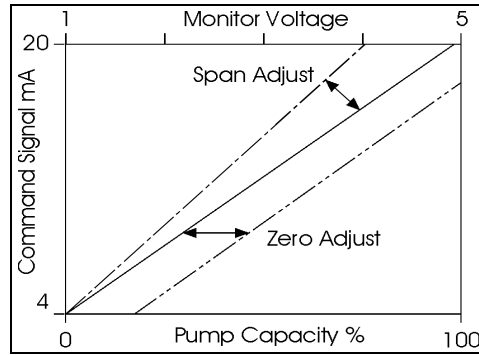
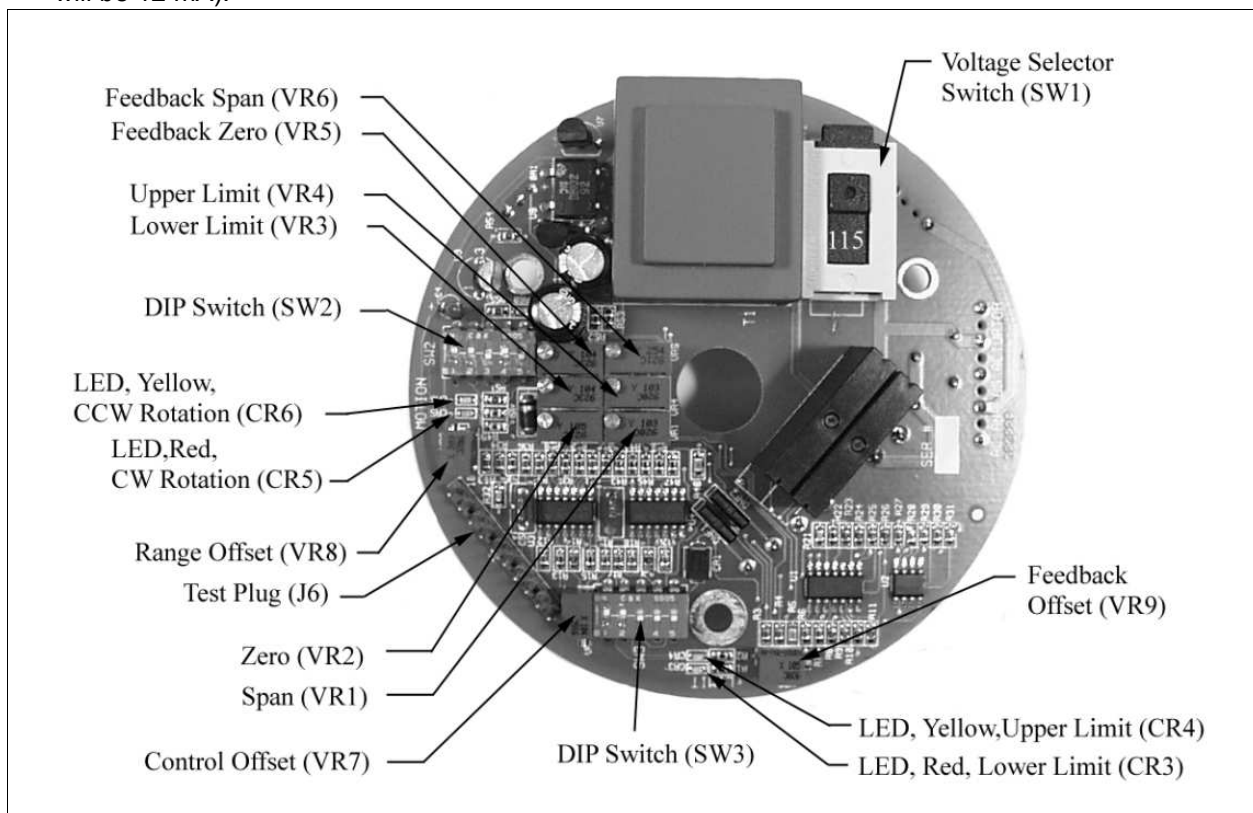

Figure 9. Effect of Zero & Span Controls.
Figure 11. Circuit Board, Top.
Voltage selector switch SW1 (Figure 11), located on top of the circuit board, is a two-position switch used to configure the ECC for an input of 115 VAC or 230 VAC. Insure SW1 is set to the voltage listed on your data plate (Figure 1 or 2), attached to the enclosure. **The factory sets SW1 for the model ordered and should not be changed.** If the operating voltage must be changed, contact the Milton Roy factory at (215) 441-0800 for conversion parts and instructions.
5. Voltage selector switch SW1 (Figure 11), located on top of the circuit board, is a two-position switch used to configure the ECC for an input of 115 VAC or 230 VAC. Insure SW1 is set to the voltage listed on your data plate (Figure 1 or 2), attached to the enclosure. The factory sets SW1 for the model ordered and should not be changed. If the operating voltage must be changed, contact the Milton Roy factory at (215) 441-0800 for conversion parts and instructions.
- Adjusting the span control, VR1, Figure 11, determines the maximum travel of the ECC over the full range of the command signal.
- Adjusting the zero control, VR2, Figure 11 shifts the position of this travel (Figure 9).
First remove the cover from the ECC. On the ECC-circuit board, Figure 11, are four lights and four small trim potentiometers. The lights are in pairs. The pots are for zero, span, upper limit, and lower limit adjust.
3. Locate the “Zero” (VR2) and “Span” (VR1) adjust controls on the printed circuit board (PCB) shown in Figure 11.